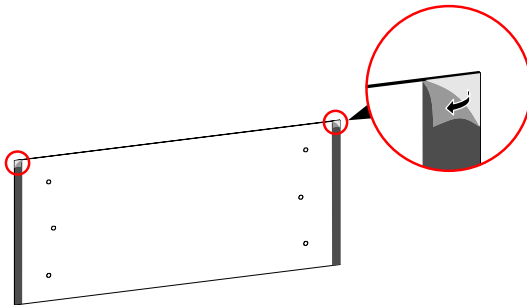

Figure3-17 Tear back glue
1. Fix the bottom battery pack with base by wall bracket b, as shown in Figure3-17.